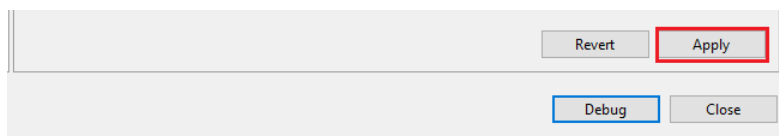

Figure 3.31 Applying the debug configurations
With the PC and the FPB properly connected by USB, upon clicking the "Debug (D)" button (see Figure 3.31), the program (sketch) is downloaded to the FPB, and execution is possible.
Each time thereafter, when debugging, click on "Run (R)" on the menu bar and then click on "Debug Configurations (B)". Then, click the "Debug (D)" button on the "Debug Configurations" screen (see Figure 3.31).
(7) Program execution